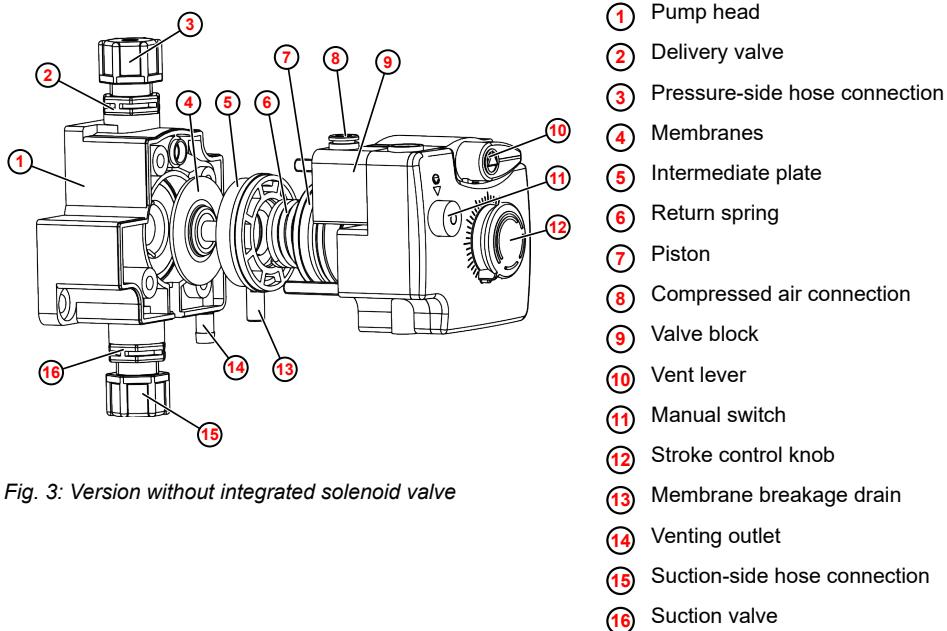

Fig. 3: Version without integrated solenoid valve
- 1.** Connect NW 6 (2) to the hose nipple (1) on the venting overflow (Fig. 3 , 14) and secure with hose clip if necessary.